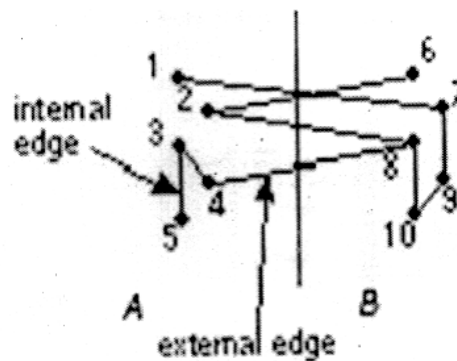

Fig. Q 9(b)
- 9 a. For the network graph, show in Fig. Q 9(b), apply KL algorithm to minimize the external edges. What are the problems or limitations of using KL algorithm for system partitioning? How can they be overcome?